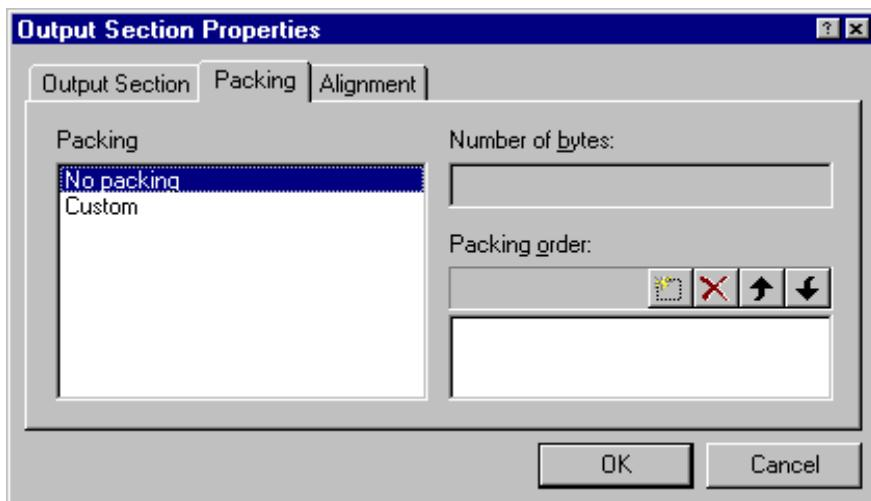

Figure 4-52. Memory Segment Properties Dialog Box – Packing Tab
2. Choose **Properties** and click the **Packing** tab (Figure 4-52).